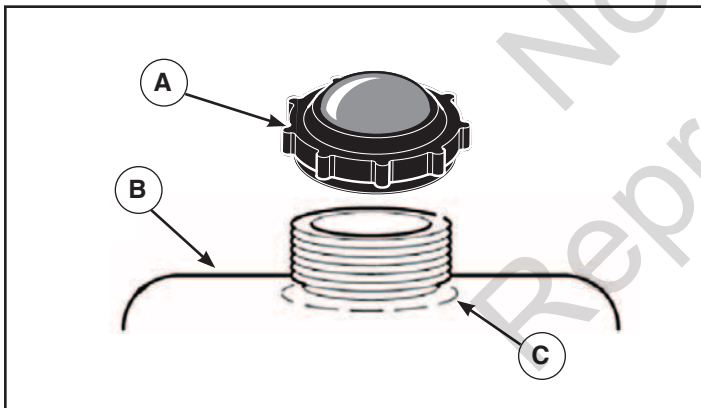

Figure 6
1. Clean the fuel cap area of dirt and debris. Remove the fuel cap (**A**, Figure 6). Also see **Features and Controls** section.